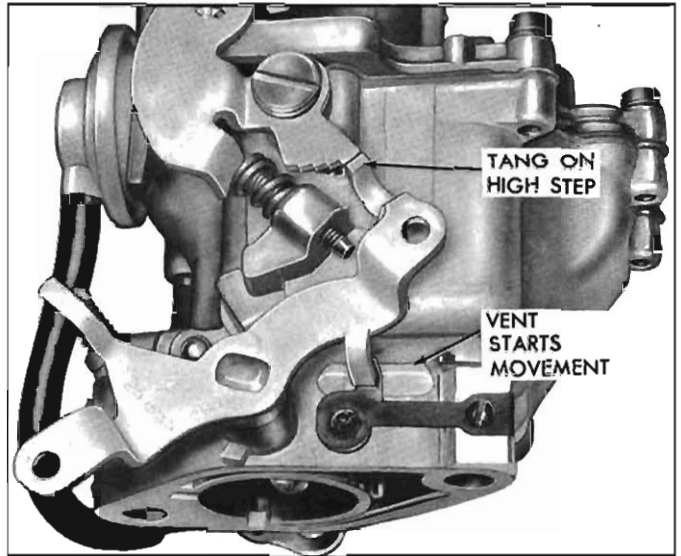

Fig. 7—Vapor Vent Adjustment
**VAPOR VENT ADJUSTMENT (fig. 7)**